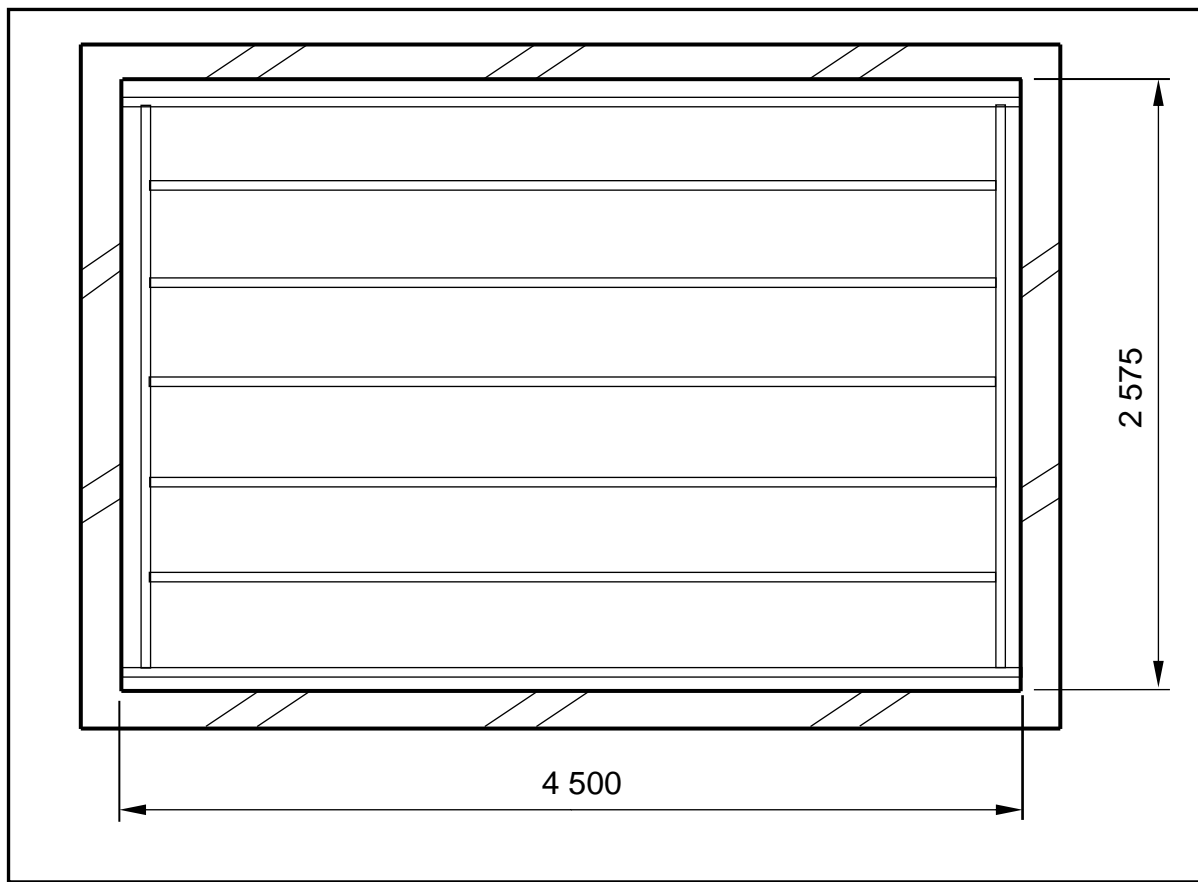

FIGURE 4.5
- 4.5 FIGURE 4.5 on the next page shows the brandering layout of a ceiling construction and the four walls. Study the drawing and complete the incomplete cutting list. Write down the answer next to the question number (4.5.1 to 4.5.7) in the ANSWER BOOK.